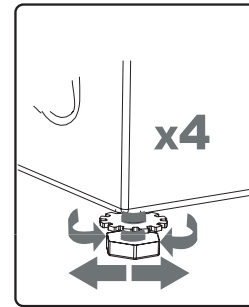

Fig4
- 4:** Adjust by rotating the feet upwards or downwards.(Fig 4)